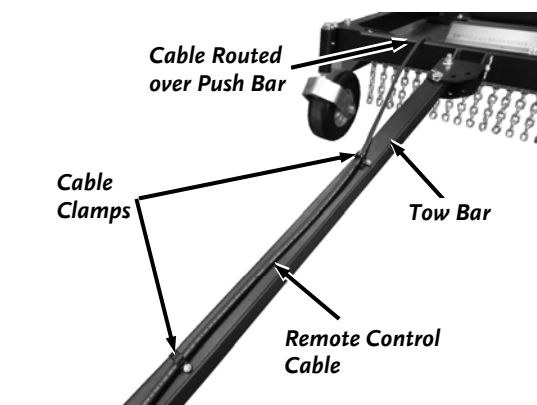

Figure 7
- Position the Remote Control Cable over the Push Bar and insert the Connector through the Cable Clamps on the Tow Bar (**Figure 7**).